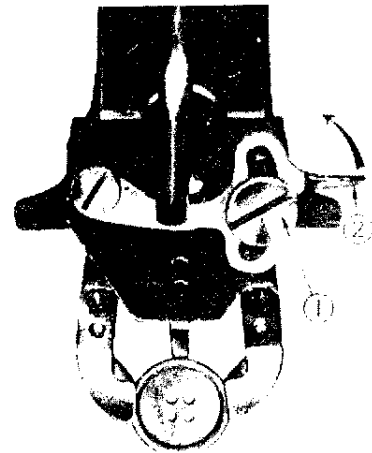

Fig. 22
21. REGLAGE DU LEVIER DE SERRAGE - FIG. 22
AVEC LA MACHINE EMBRAYEE, DESSERER LA VIS (1) ET SELON QUE LA MACHOIRE SERA OUVERTE OU FERMEE PAR L'ACTION DU LEVIER (2), DISPOSER CORRECTEMENT LE BOUTON COMME INDIQUE FIG. 22. APRES AVOIR CONSTATE QUE LE BOUTON EST MIS ET OTE FACILEMENT, RESSERER LA VIS (1).